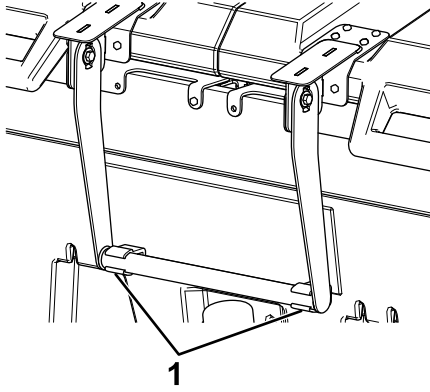

Figure 25
- Using the handle as a guide, mark the placement of the handle clips and secure them in place with 4 lag screws (Figure 25).